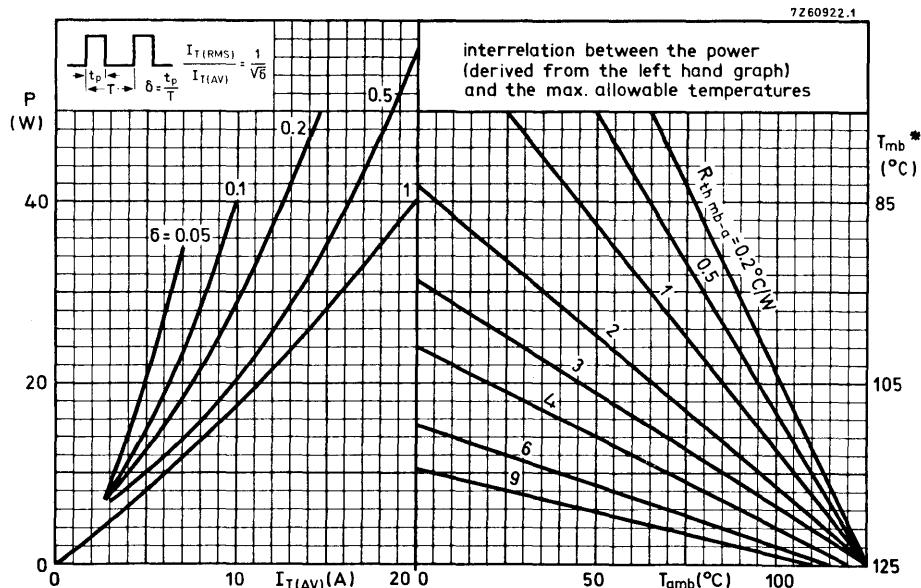
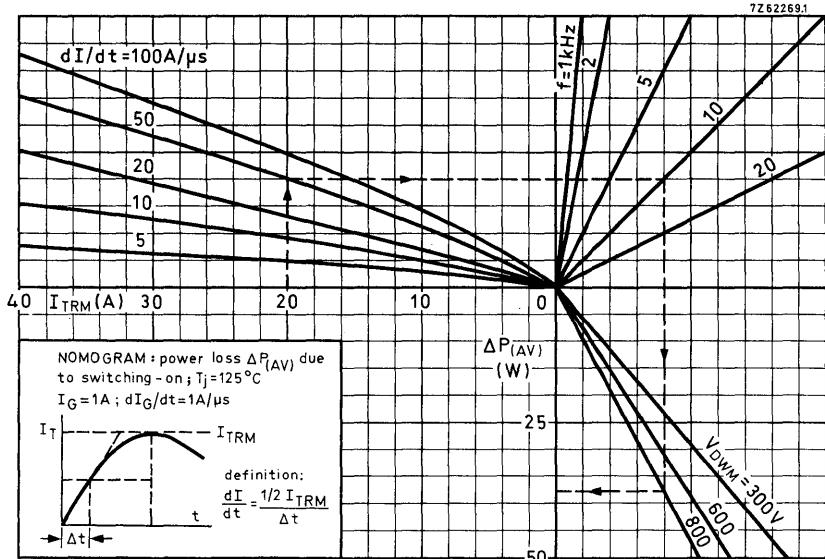

Fig. 5.
Fig. 13.
For smaller heatsinks T_j max should be derated. For square-wave see Fig. 5.
- a. The curves in Figs 13 and 14 show the additional average power losses due to turning on and turning off the thyristor in square pulse operation. This power should be added to that derived from the curves in Fig. 5.